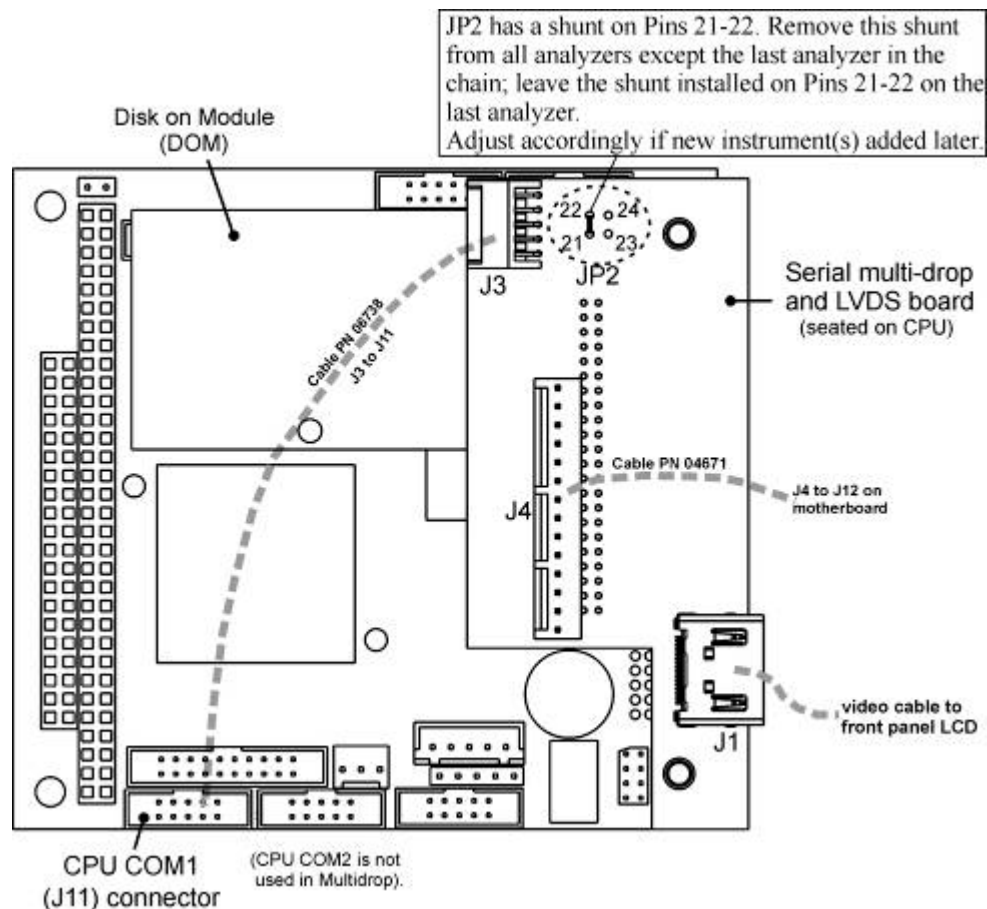

Figure 3-19: Jumper and Cables for Multidrop Mode
In each instrument with the Multidrop option there is a shunt jumpering two pins on the serial Multidrop and LVDS printed circuit assembly (PCA), as shown in Figure 3-19. This shunt must be removed from all instruments except that designated as last in the multidrop chain, which must remain terminated. This requires powering off and opening each instrument and making the following adjustments:
2. On the Multidrop/LVDS PCA's JP2 connector, remove the shunt that jumpers Pins 21 ↔ 22 as indicated in Figure 3-19. (Do this for all but the last instrument in the chain where the shunt should remain at Pins 21 ↔ 22).
3. Check that the following cable connections are made in all instruments (again refer to Figure 3-19):